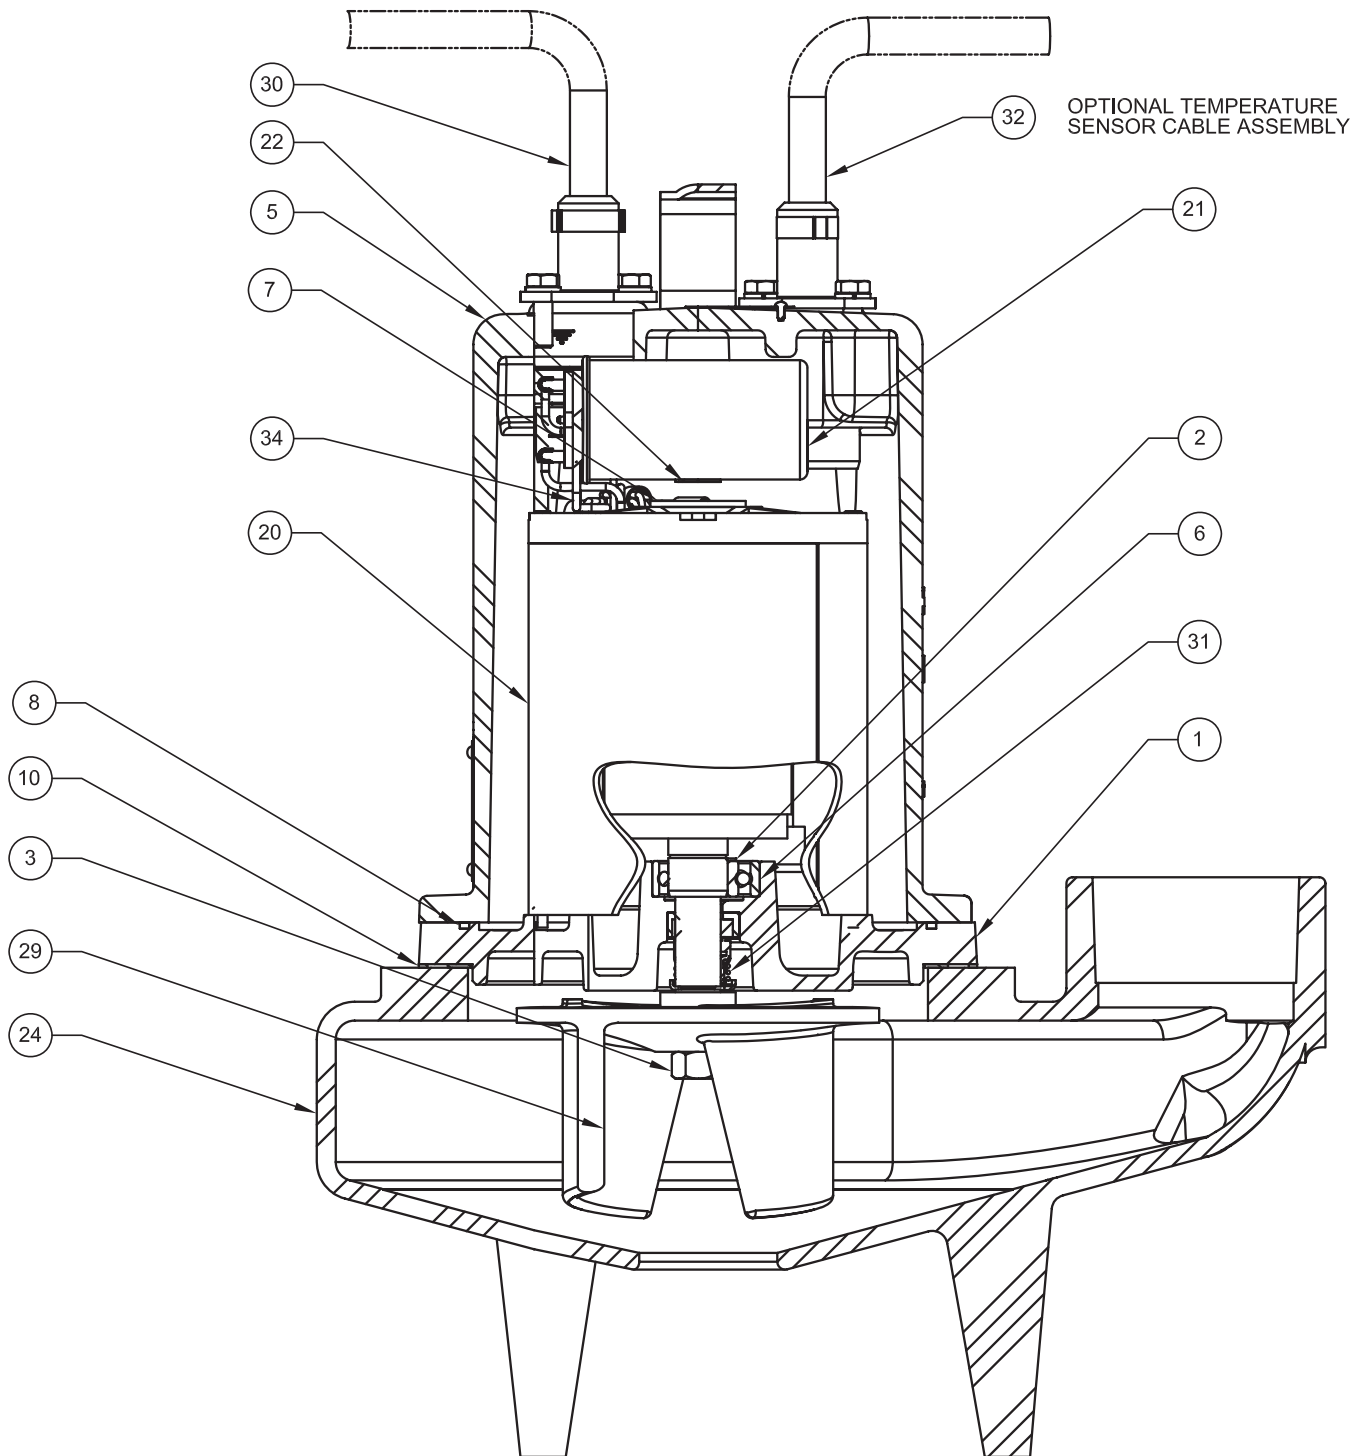

FIGURE 11
To clean out volute (24) or replace impeller (29), disconnect power, remove screws (12), and lockwashers (11), vertically lift motor and seal plate assembly from volute (24). Clean out volute if necessary. Clean and examine impeller (29), for pitting or wear and replace if required, inspect gasket (10) and replace if cut or damaged. If the impeller (29) needs replacing, remove nut (3), place a flat screwdriver in the slot of the end of the shaft to hold the shaft stationary while unscrewing the impeller (29). (See Figure 11 or 12)
To install impeller (29), screw impeller onto the shaft hand tight. Clean the threads with Loctite cleaner. Apply thread locking compound to shaft threads and install nut (3). Torque to 40 ft. lbs. Rotate impeller to check for binding. Position gasket (10) on volute flange and position impeller and motor housing on volute (24). Position lockwashers (11) on cap screws (12) and screw into volute (24). Torque to 8 ft. lbs. Check for free rotation of motor and impeller. (See Figure 11 or 12)